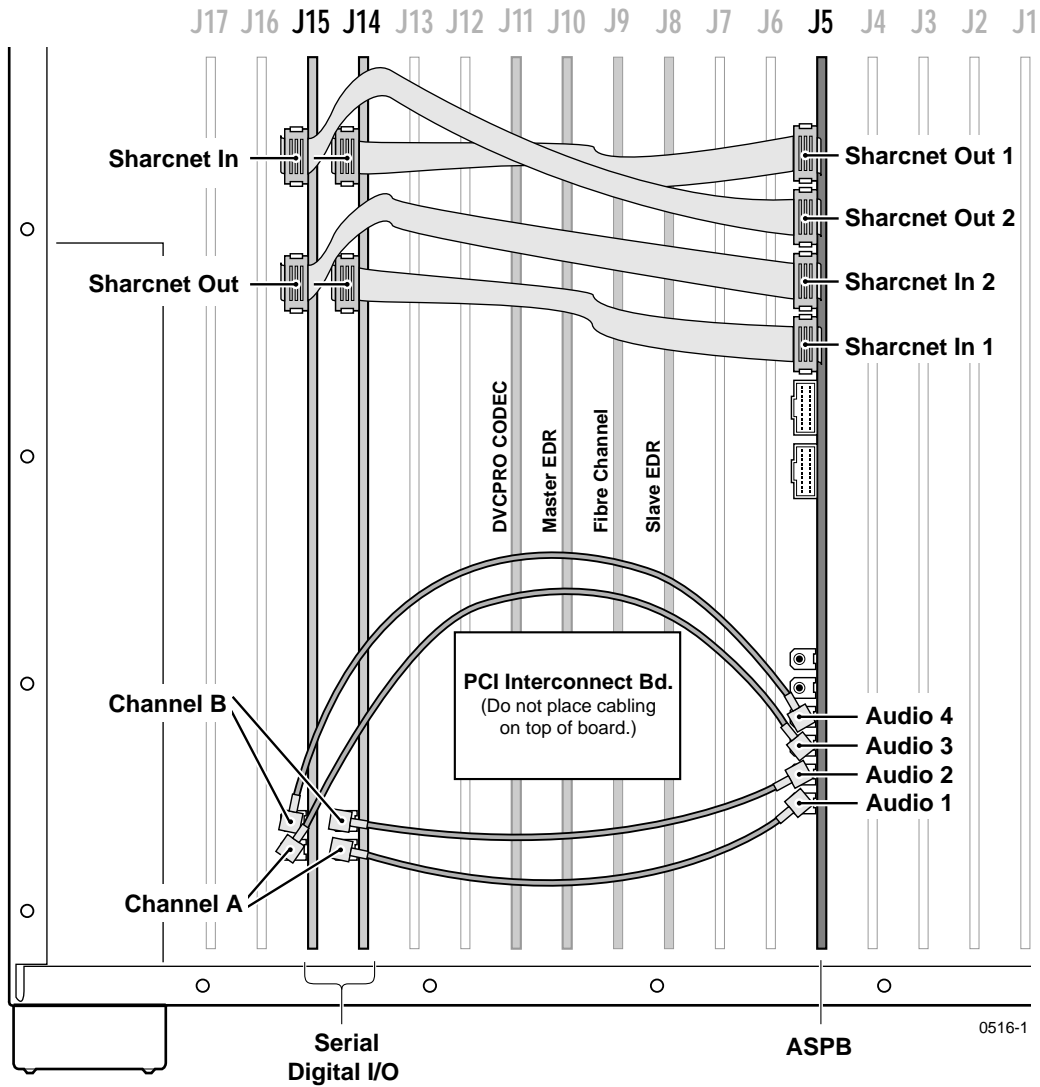

Figure 9. ASPB cabling with two Serial Digital I/O boards and one ASPB
1. Remove the three-slotted PCI Interconnect board and remove all cables connected to Profile boards, such as SCSI, Sharcnet, or audio clock cables (look at Figure 9 on page 43 if you need help identifying the Sharcnet and audio clock cables). Label each cable before removing it and draw a simple diagram to make it easier to reconnect the cables later.
The example in Table 5 and Figure 9 shows audio clock and Sharcnet cabling for a PDR204D having two Serial Digital I/O boards and one ASPB.
On both the ASPB and SDI board there are Sharcnet In and a Sharcnet Out connectors. These are shown in Figure 9 on page 43. In general, ASPB Sharcnet Outs are connected to SDI Sharcnet Ins, and ASPB Sharcnet Ins are connected to SDI Sharcnet Outs. Simple enough, but connection order is important.